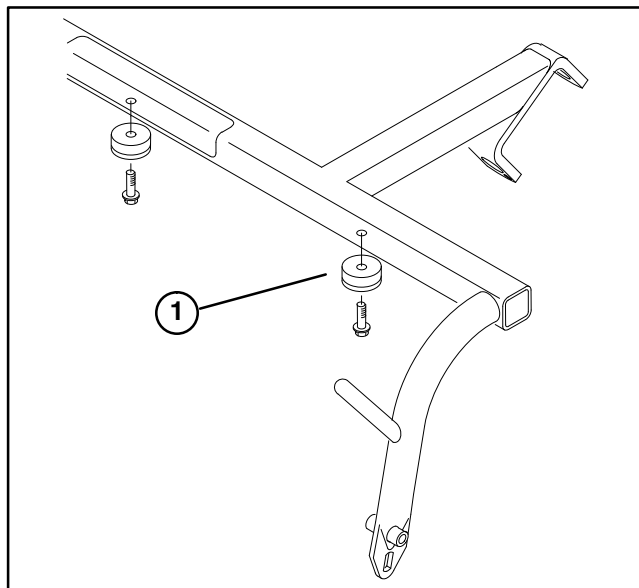

Figure 2
2. Mount (2) recessed bumpers to underside of each pull frame cross tube with (2) 1/4 x 3/4" lg. washer head self tapping screws (Fig. 2).